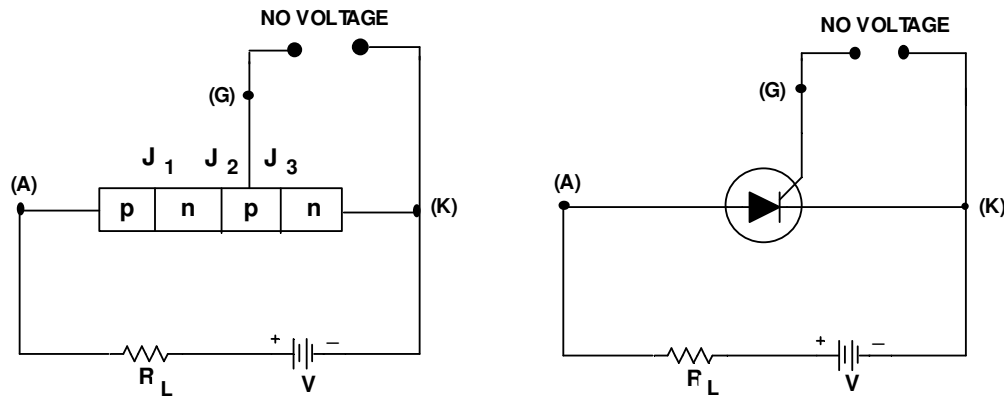

Fig.64.2
**Action of Anode voltage:** An SCR circuit shown in fig. 64.2 where anode is made positive w.r.t. cathode and the gate voltage is kept at zero. With the application of this voltage, the junctions  $J_1$  and  $J_3$  are forward biased, whereas junction  $J_2$  is reverse biased. Hence, the flow of current in the circuit is blocked i.e. SCR is cut off. However, if anode to cathode voltage  $V$  is increased, a stage is reached when breakdown of junction  $J_2$  occurs and the SCR suddenly switches to highly conducting state. In this state, the load current is only limited by supply voltage  $V$  and load  $R_L$ .